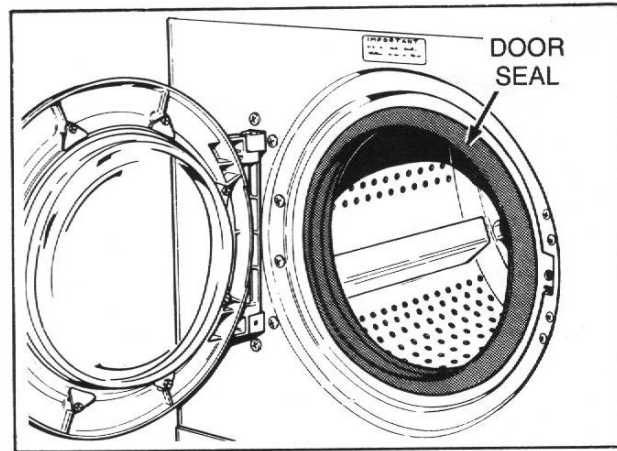

Figure 13
- k. Disengage door seal from front panel flange, *Figure 13*.
- m. Disengage door seal from front panel flange, *Figure 13*.
- Disengage door seal from front panel flange, *Figure 13*.